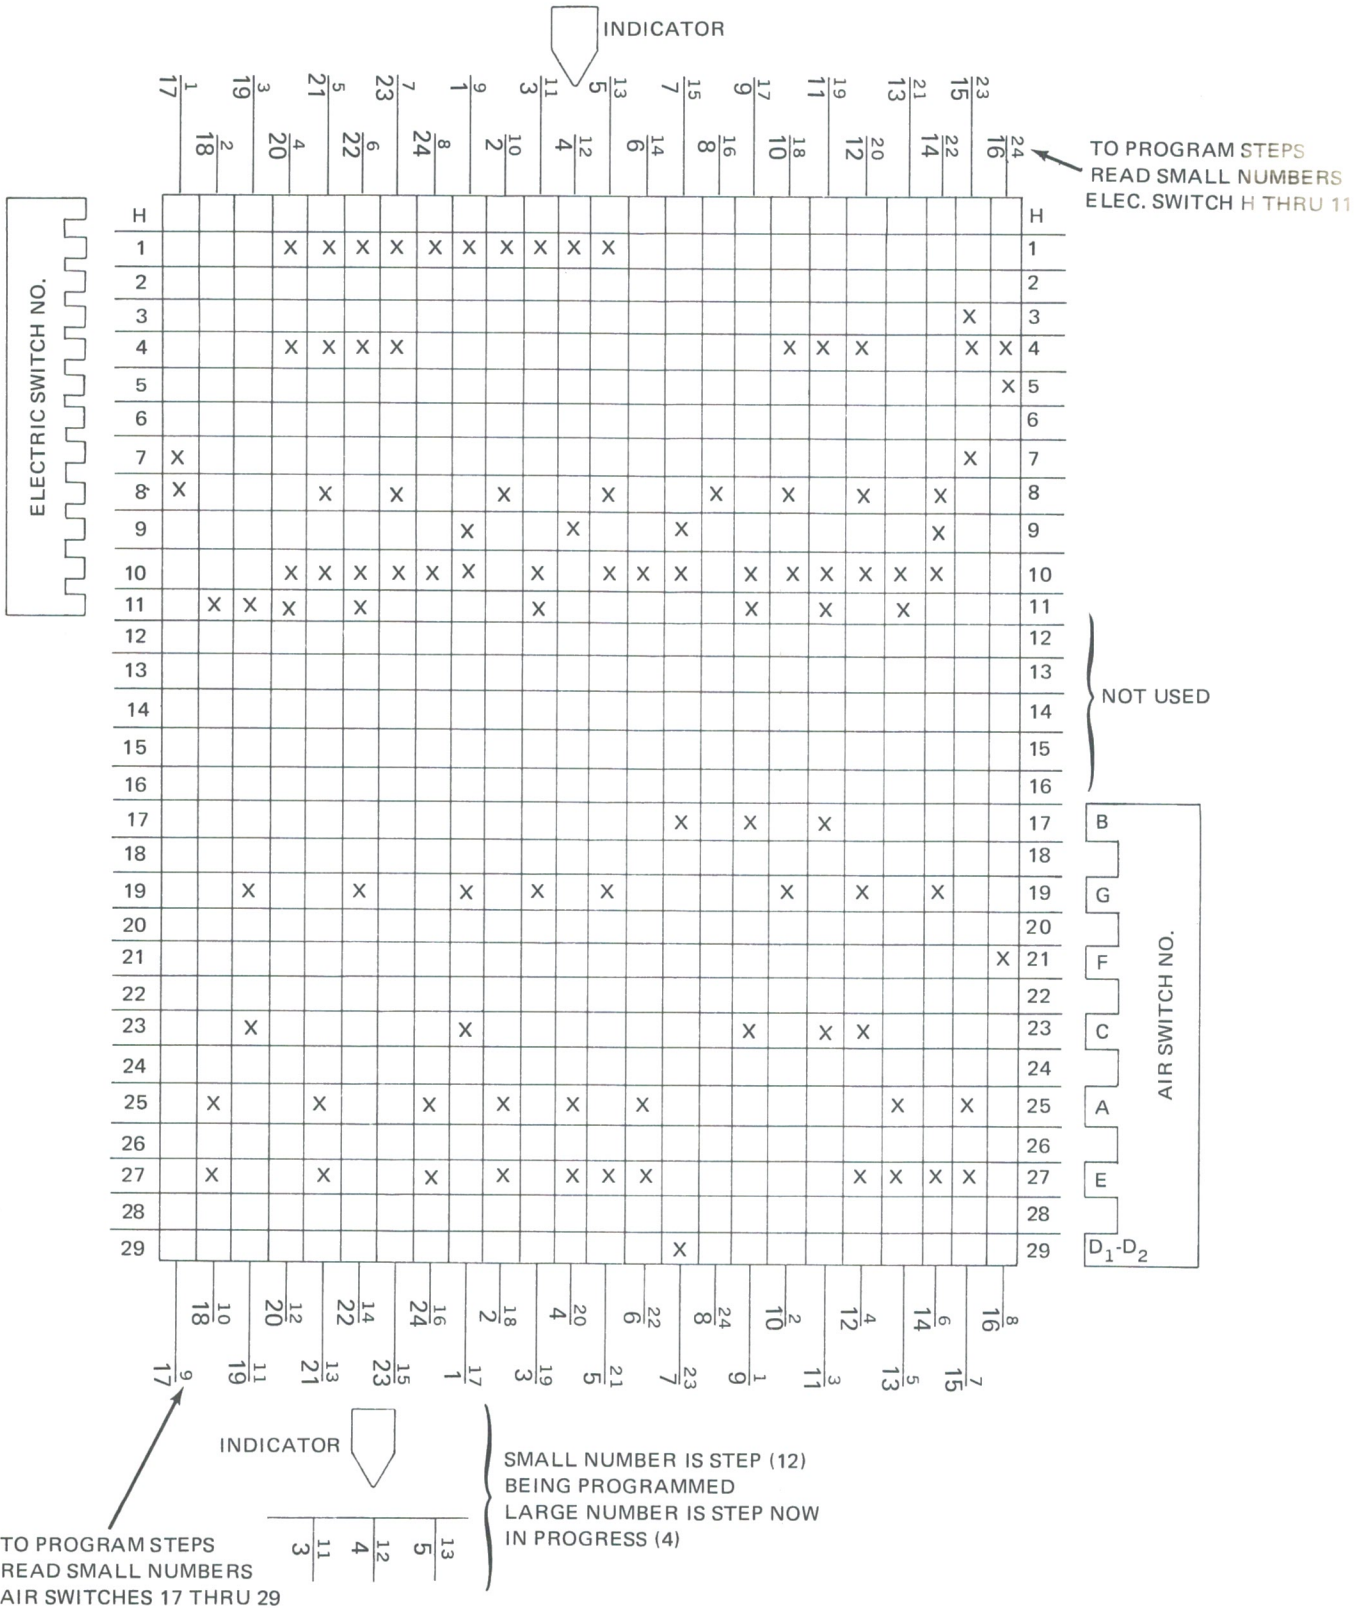

FIGURE 10-8. QUICK CHECK CHART
a. Quick Check Chart (Figure 10-8)